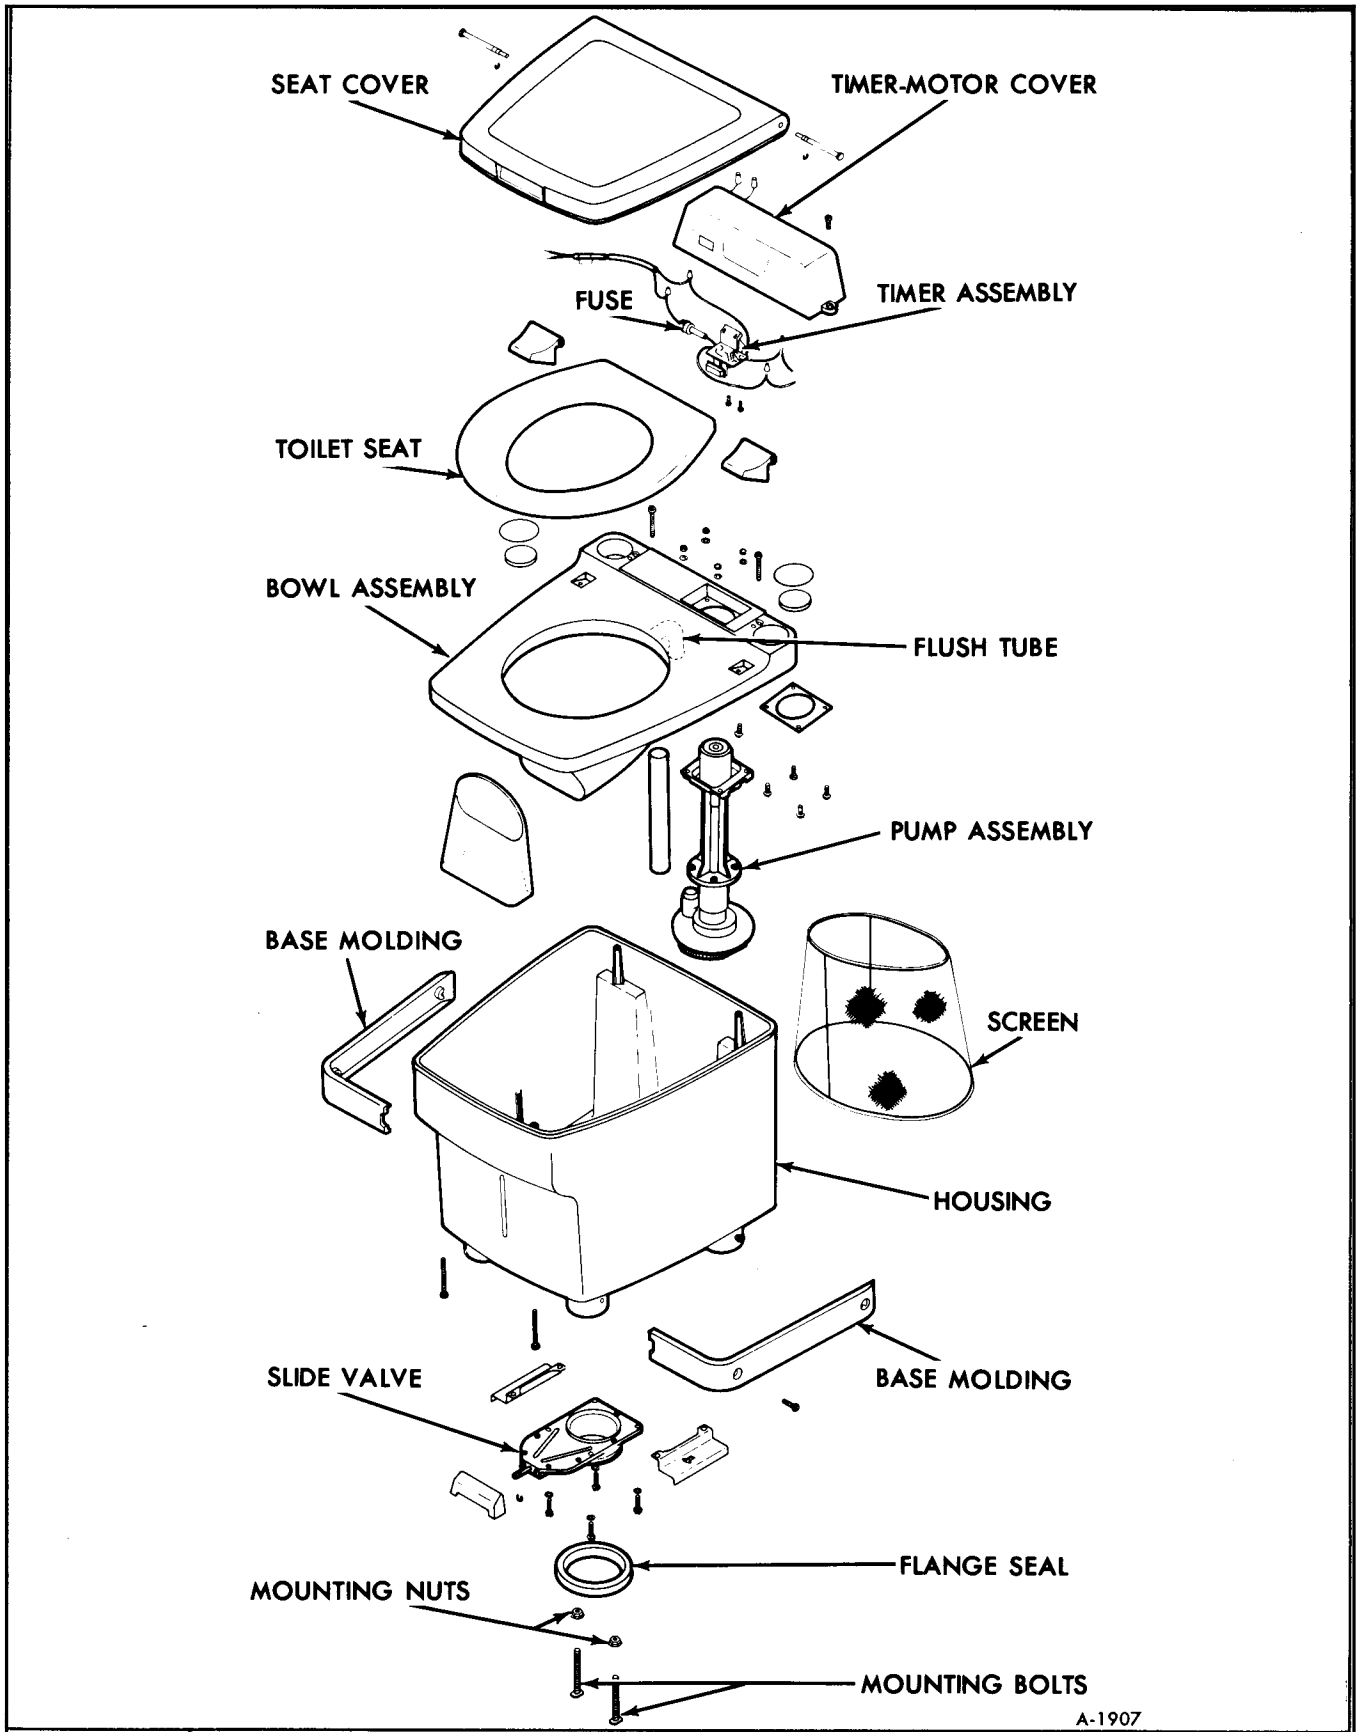

Figure 3—Recirculating Toilet Components
DISASSEMBLY AND REPAIR (FIGURE 3)
2. The fuse is now accessible for checking or changing, see Figure 3.
1. Disconnect lead wires from power source (figure 3).
3. Disconnect leads from pump assembly motor (figure 3).
5. Remove cover and bowl assembly screws (two in rear from top side and two in front from bottom side) and remove cover and bowl assembly (figure 3).
6. Remove four pump mounting screws (figure 3).
7. Disconnect flush tube from pump outlet (figure 3).
8. Remove pump assembly (figure 3).
SLIDE VALVE REPLACEMENT (FIGURE 3)